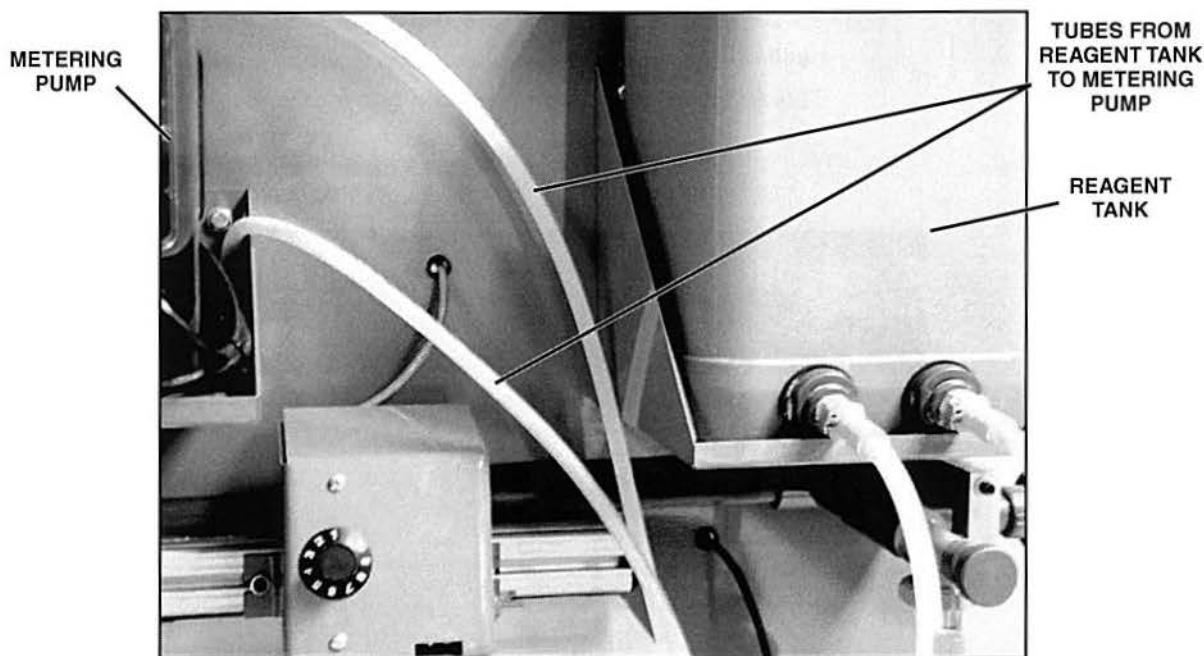

Figure 55. Tubes Between the Reagent Tank and the Metering Pump
G. Observe the tubes that run from the reagent tank to the metering pump, shown in figure 55.